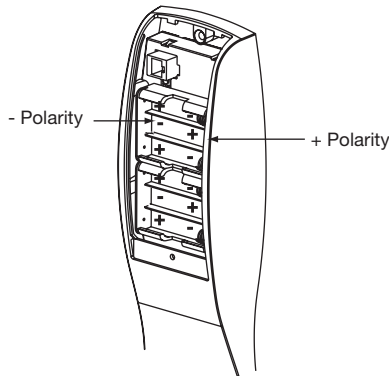

Fig. 2
2. Place (6) "AA" batteries* into the compartment being careful to align polarity properly (Ref. Fig. 2).